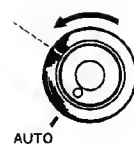

Fig. 1
Apply 1 kHz sine wave to VERT INPUT 1 (21), set STABILITY (6) to the position shown in Fig. 1 below, and adjust VR3 on printed circuit board X65-0008-01 so that the waveform disappears. Then check that the waveform becomes steady in the position of Fig. 2.